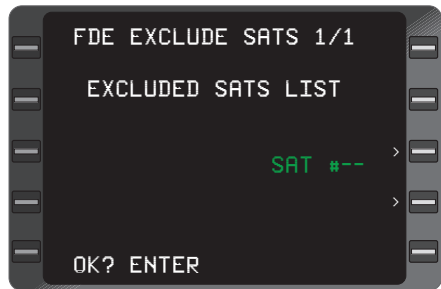

Figure 3-208
15. **ENT** Key - DEPRESS to display the **FDE EXCLUDE SATS 1/1** Page. See Figure 3-208